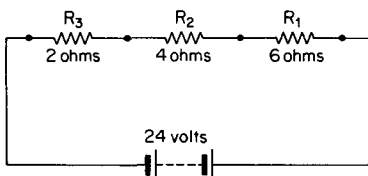

Fig. 2.83
**Example.** Find the voltage-drop across each resistor in the circuit shown in Fig. 2.83